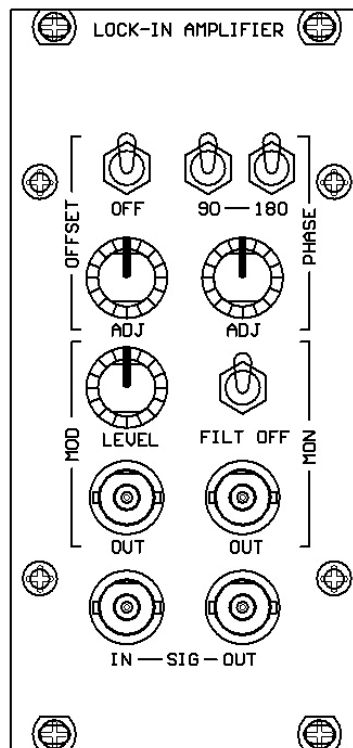

Figure 10. Front panel of the Lock-in Amplifier module
Lock-In Amplifier module (LA) is designed for stabilization of the laser wavelength to an atomic resonance line or to the transmission line of a Fabry-Perot interferometer. The LA contains a 100 kHz sinus generator, a phase shifter and a phase sensitive detector. In the typical application the sinus generator is used to modulate the laser frequency; the absorbed laser intensity is measured with a photodiode to generate a phase dependent signal and the phase sensitive detector is used to detect phase difference between modulation and measured signal. Applying phase difference signal to the Integrator module (Laser Control) allows laser locking to the maximum or minimum of the absorption line (top-of-fringe). In Figure 10 is presented front panel view of the Lock-in Amplifier. In Figure 10 front the panel of the Lock-In Amplifier is presented.